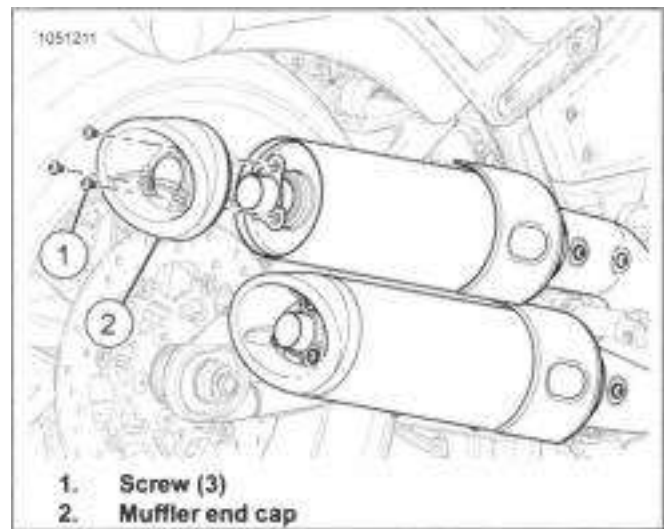

Figure 6-43. Muffler End Cap
1. See Figure 6-43. Remove end cap.
- a. Remove screws (1).
- b. Remove end cap (2).
- c. Remove end cap gasket (3), if equipped.
1. See Figure 6-43. Install end cap.